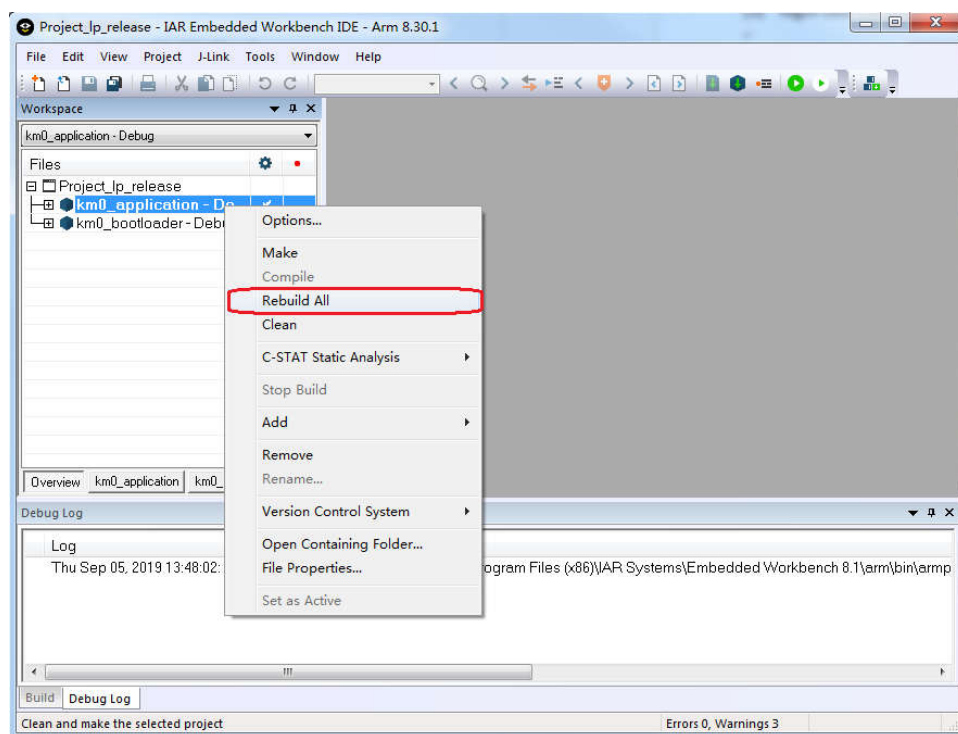

Fig 1-8 Building KM0 project
- (3) Right click the project and choose “Rebuild All”, as Fig 1-8 shows. The km0_bootloader and km0_application should compile in order.